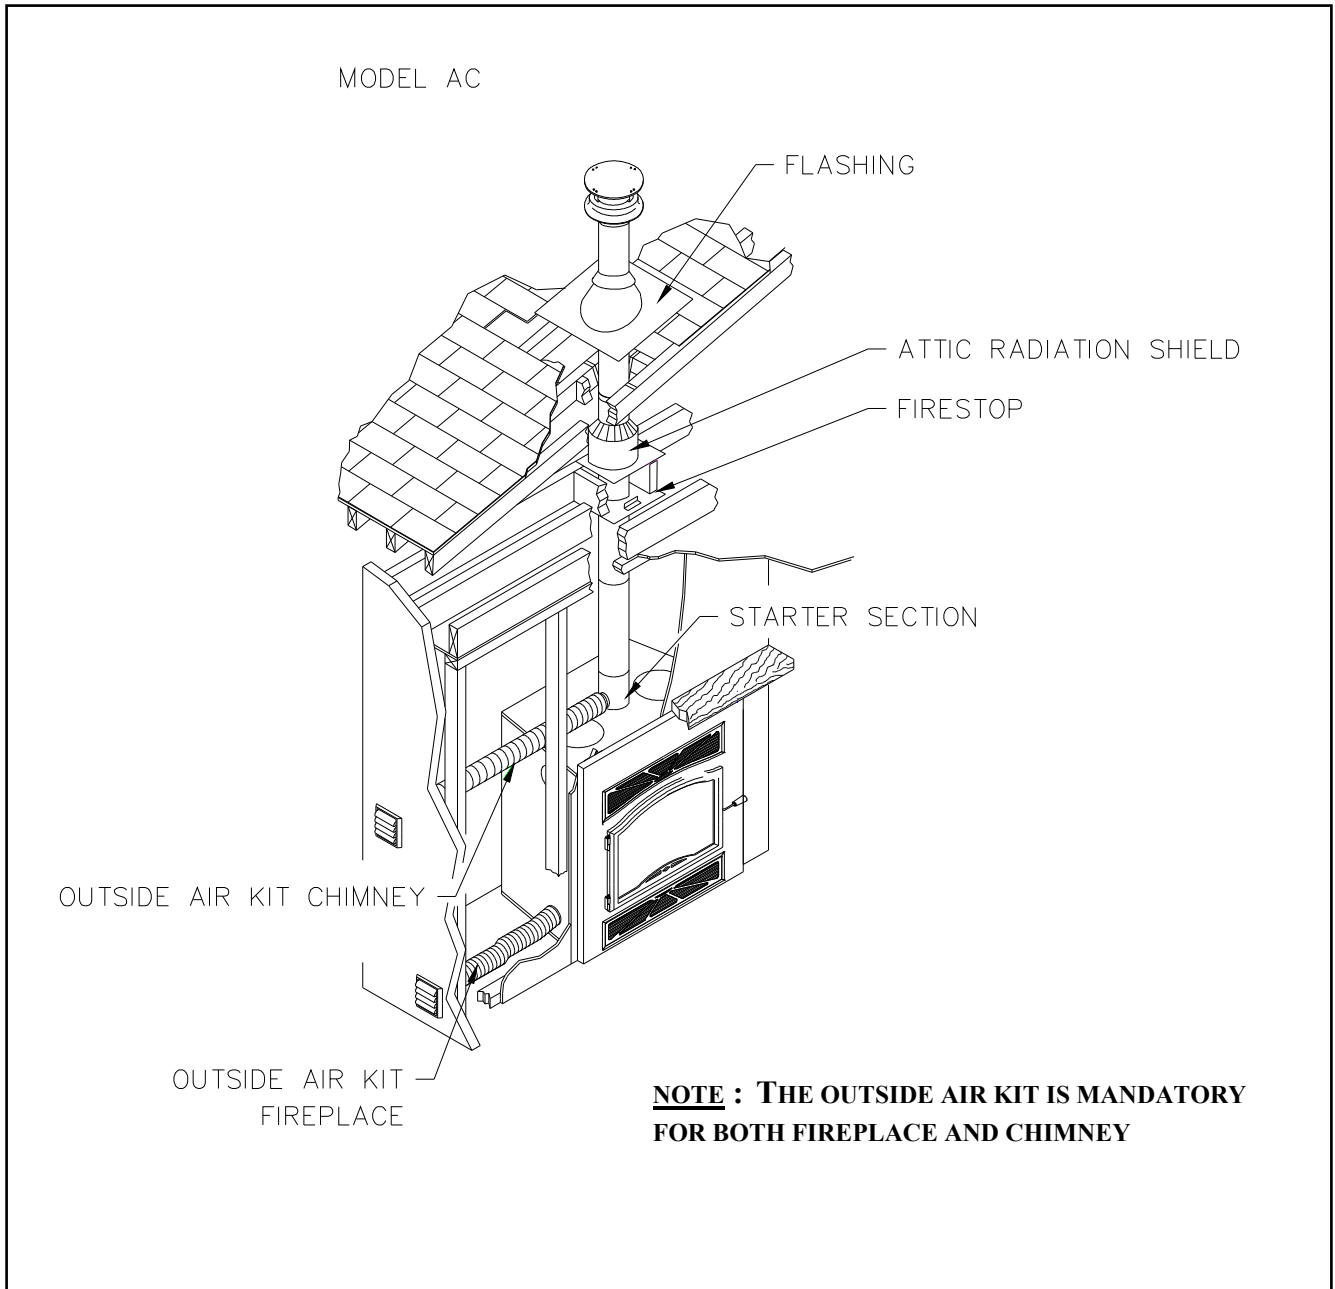

Figure 28
3. For Secure Temp^{ASHT+} / Nova Temp^{HT6103+} and Secure Temp^{S2100+} / Nova Temp^{HT6000+} chimneys, place the first chimney length on the fireplace. To lock it in place, turn ¼ of a turn clockwise. With the ACBI chimney, you must use a starter section before installing the first chimney length (figure 28). Continue installing chimney lengths making sure to lock each length in place.